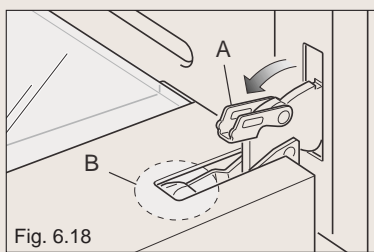

Fig. 6.18
- * Fully open the lever "A" on the left and right hinges. (fig. 6.18).
- * Gently close the door until left and right hinge levers "A" are hooked to part "B" of the door (figs. 6.18, 6.19).